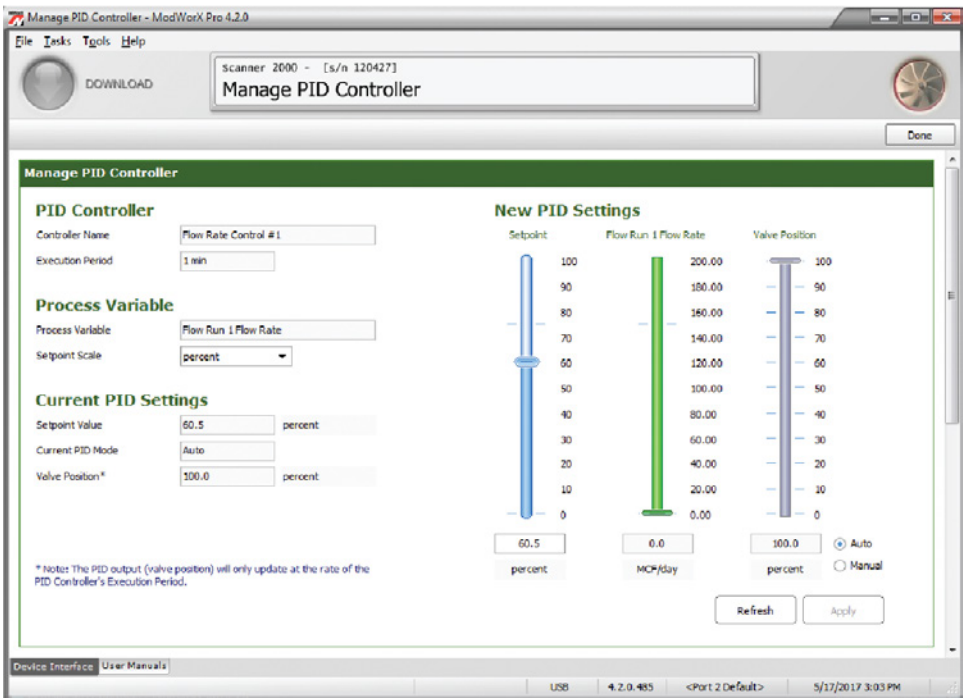
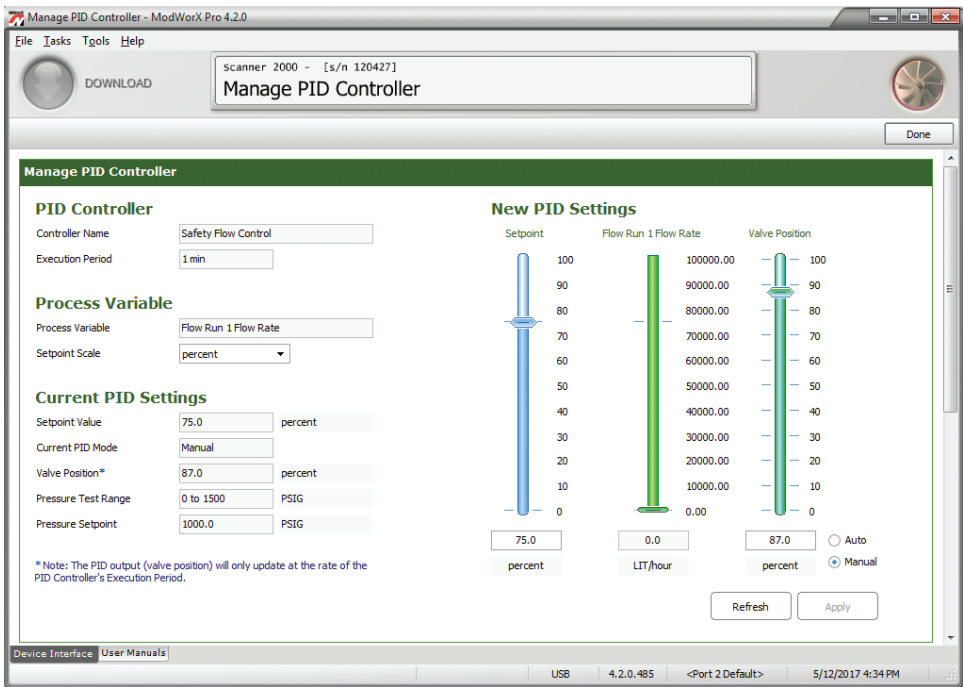

Figure B.8
Figure B.9
1. From the Scanner 2000 Main Display screen, click **Manage PID**. Figure B.8, page B-9 shows a Manage PID Controller screen for a simple controller and Figure B.9, page B-9 shows a screen for a PID controller with pressure override.